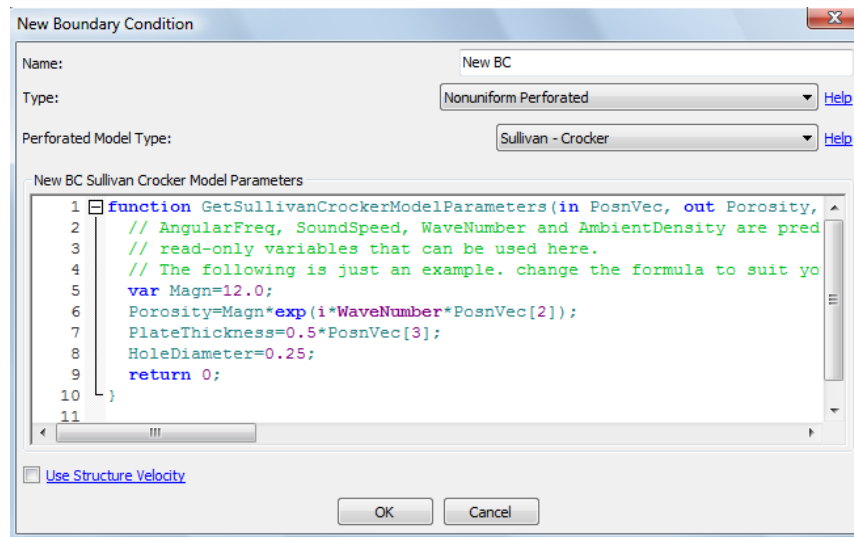

Figure 6.28 Non-Uniform Perforated
6.6.3.5. Non-uniform Perforated BC This Boundary Condition is applied over perforated elements with position-dependent parameters. Refer to Section 6.6.3 for the transfer relation used to model perforated boundary condition. The values for porosity, plate thickness, and hole diameter in **Sullivan and Crocker** model is set by a call to the function *GetSullivanCrockerModelParameters*. This function accepts the predefined position vector *PosnVec* as the input argument and outputs *Porosity*, *Plate Thickness*, and *Hole Diameter*. Similarly, the value for the transfer impedance in **Transfer Impedance** model is set by the function call *GetTransferImpedance*, which accepts *PosnVec* as the input and returns transfer impedance. Other predefined variables that can be used in the script are *AngularFreq* (ω) – frequency in radians/sec, *GetSoundSpeed*("MaterialName") (c) – speed of sound in the medium with the same units as those defined in materials, *GetWaveNumber*("MaterialName") ($k = \frac{\omega}{c}$), and *GetAmbientDensity*("MaterialName") (ρ) – density of the medium with the same units as those defined in materials. (Figure 6.28.)